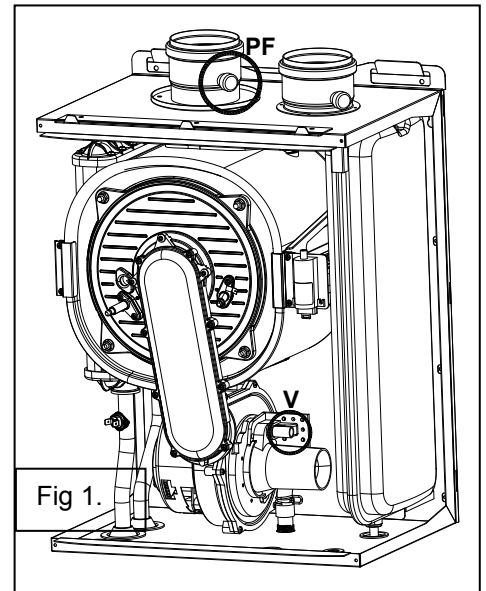

Fig 1.
The filling operation is carried out as follows (see fig. 1):
- Unscrew the plug and insert an analyser in the exhaust sampling point **PF**, **SEE** Fig. 1, (air intake manifold is missing in the drawing to provide a clear view of the V screw) to check the CO2 value. Make sure that the value complies with that reported in table 1 while the appliance is in "Flue Test Function" mode;
- If the CO2 value does not correspond to the specified value, adjust screw **V** (see fig. 1) on the venturi clockwise to reduce the CO2 value or counter-clockwise to increase it;